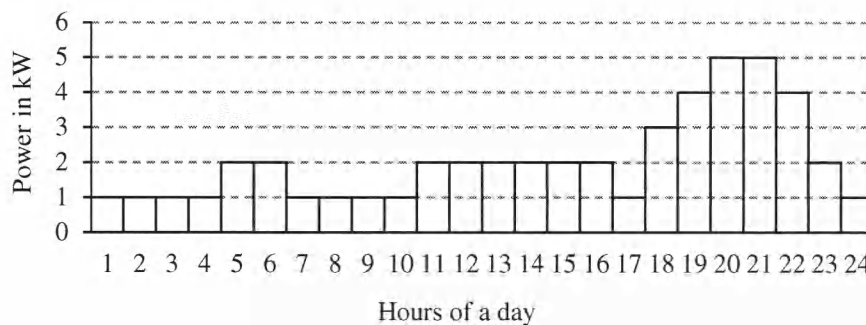

Figure-3: Average daily load curve of a multi storey residential building
5. a. The average daily load curve of a multi storey residential building is presented in figure-3. The building is located at a site with an average solar radiation of $5.5\text{kwh/m}^2/\text{day}$. Design a solar photovoltaic system to meet the daily load of the building. Specify the size of the photovoltaic array, battery, charge controller and inverter, assuming all ac loads. [6]